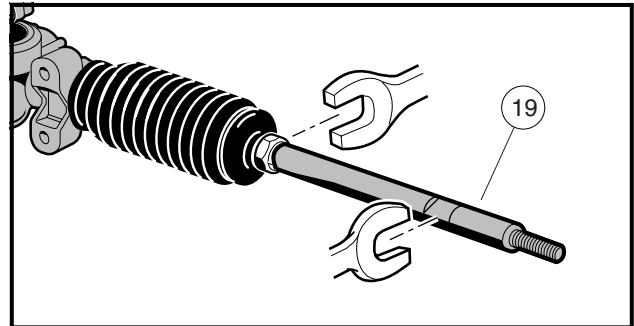

Figure 7-10 Drag Link
2. Remove both drag links (19) (**Figure 7-10, Page 7-7**).